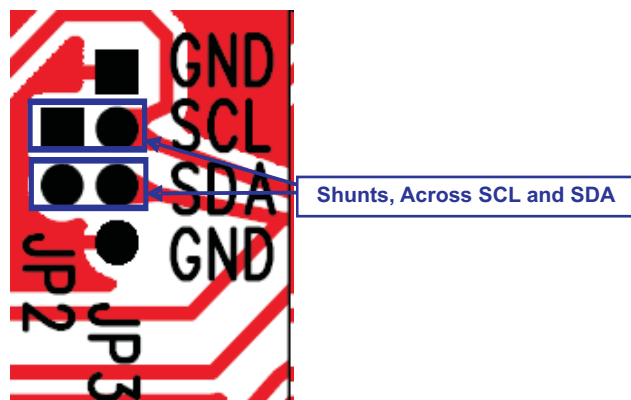

Figure 1. Place Shunts Horizontally Across SCL and SDA
3. Install shunts in JP2 and JP3 as Figure 1 illustrates. This sets the TPA6130A2 to accept I²C inputs from the EVM itself.